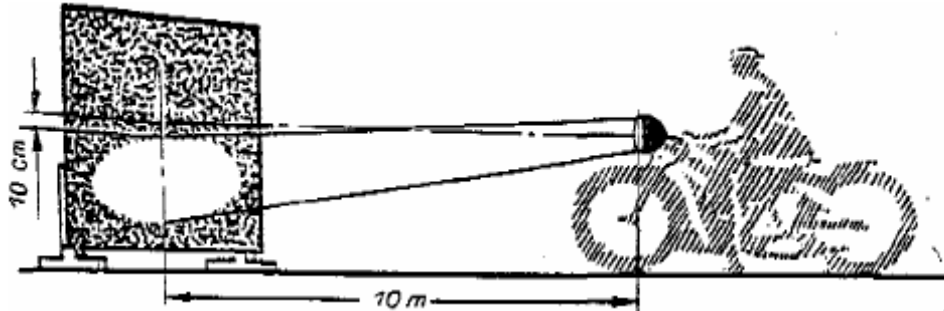

Fig 31
1. The motorcycle with load is set up on an even place before a white wall or a light light at a distance of 10 m up to the headlight glass (fig. 31).